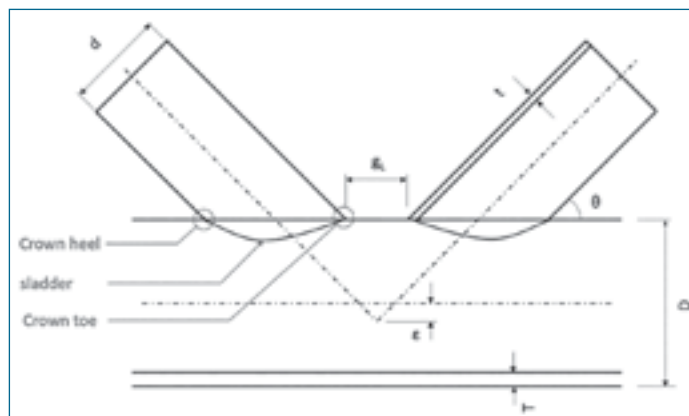

Figure 1: An annotated sketch of a tubular K-joint.
Figure 1 shows an annotated outline of a tubular K-joint with the most important areas for the following considerations: The smaller brace is described by its diameter ( $d$ ) and wall thickness ( $t$ ); the chord, similarly, by its diameter ( $D$ ) and wall thickness ( $T$ ). Three geometrical factors, eccentricity ( $\epsilon$ ), angle between brace and chord ( $\theta$ ) and the gap between the two braces ( $g_u$ ), are drawn. Moreover the specific areas crown heel, sladder and crown toe are marked [3].
Based on the data in Figure 1, chord slenderness ( $\gamma$ ) is calculated in (1), taking into account the diameter proportion (2). According to references from Kuhlmann et al [3], chord slenderness must be greater than twelve.